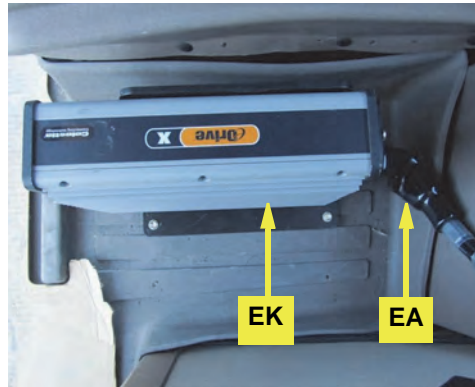

Figure 2a: Main cable connected to ECU (4WD)
- a. Connect cable **EA** to ECU **EK** using an Allen wrench to secure the cable. The **EA** connector will only fit the ECU socket that is in line with the power and communications indicators at the opposite end of the ECU - the lower socket in this installation (Figure 2a - 4WD installation shown).